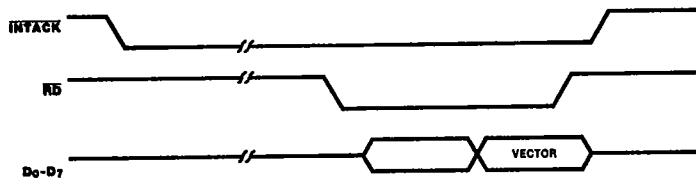

Figure 3. Interrupt Acknowledge Cycle Timing
**Interrupt Acknowledge Cycle Timing.** Figure 3 illustrates Interrupt Acknowledge cycle timing. Between the time  $\overline{INTACK}$  goes Low and the falling edge of  $\overline{RD}$ , the internal and external IEI/IEO daisy chains settle. If there is an interrupt pending in the SCC and IEI is High when  $\overline{RD}$  falls,